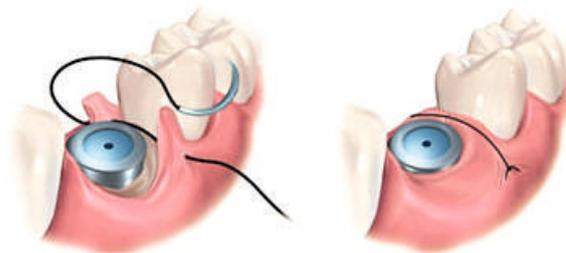

Figure 4 – Simple Suture Technique (4)
This is the most common suture technique within the mouth cavity. The suture passes from one side of the wound, exits from the other side, and knotted at the top (Figure 4) (4).